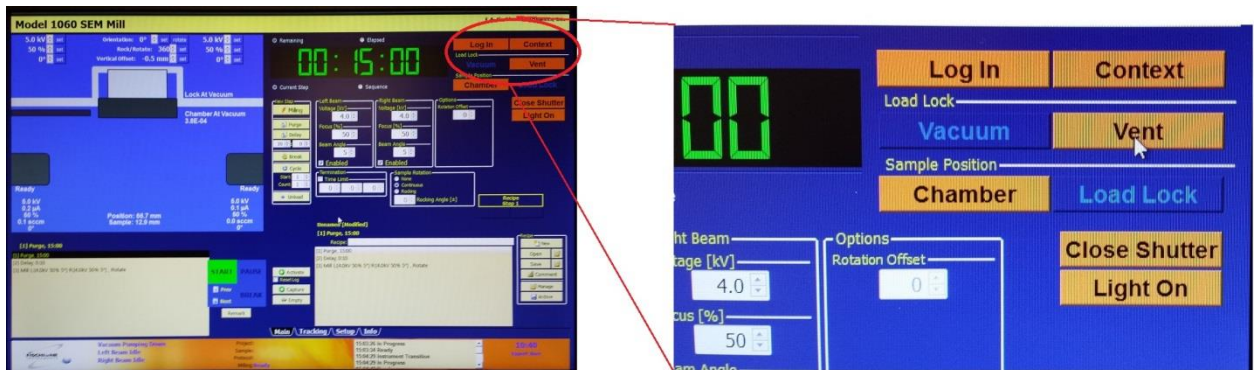

Figure 5
- Vent the sample chamber by clicking on the “Vent” button in the software (**Figure 5**). It is located in the upper right corner of the computer screen. Buttons in the software that are blue are the currently active mode. The Fischione should be under vacuum when not in use.